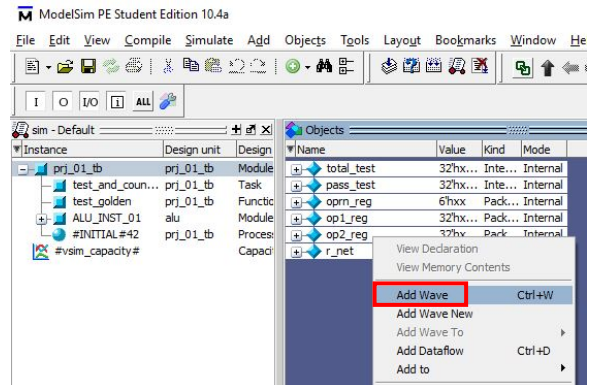

Figure 2.9 Object Window
- 7) "Object" window will appear as in Figure 2.9
- Select all files on "Objects" window then hit the right click and click "Add Wave" as in Figure 2.9